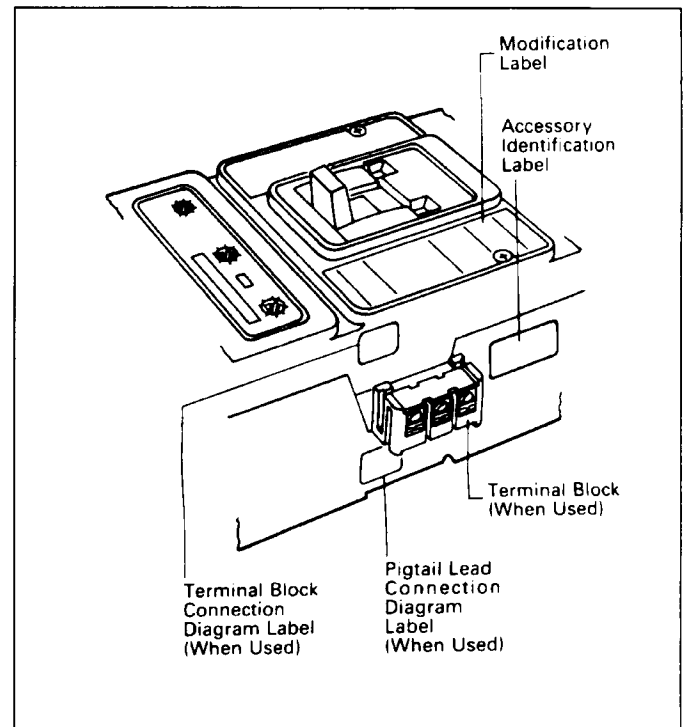

Fig. 2-7. Preferred Mounting Locations for Accessory Nameplate Labels
- 2-9. Place accessory labels (supplied with kit) on circuit breaker. (See Fig. 2-7.)